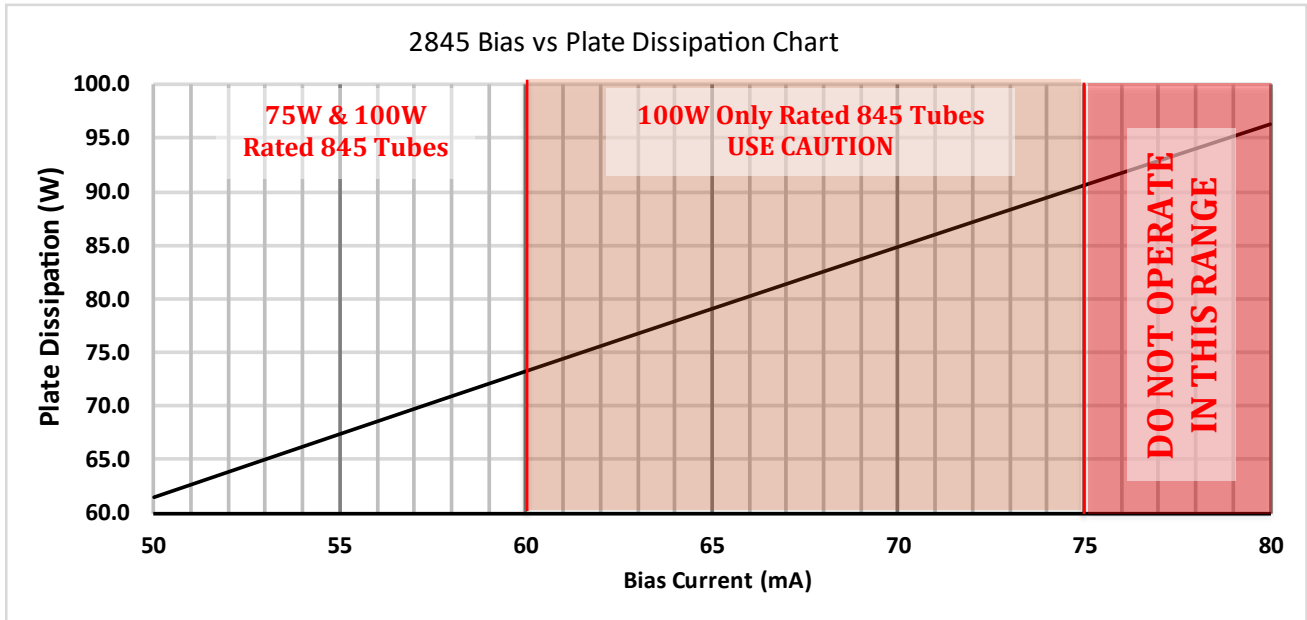

Figure 4: Bias Current vs Plate Dissipation for 120VAC or 240VAC Mains
Figure 4 shows the sensitivity of bias current setting to tube plate dissipation. Ranges shown may not cover all circumstances such as elevated mains voltage. Read section 3.4 completely!
See Figure 4 for the bias setting (mA) vs 845 plate dissipation (W).